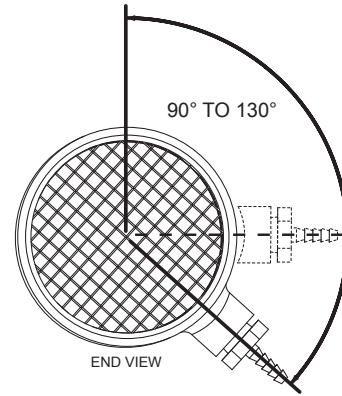

Figure 25. Intake Air Connection Hose Barb Angle Range for Proper Operation
Ensure that the hose barb installed in the Tee fitting IS NOT facing down towards the ground (180° - 6 o'clock position) before venting installation begins. The barb fitting must be angled between 90° and no more than 130° as shown in **Figure 25** (page 33). If the barb fitting is facing down, residual condensate that occasionally forms in the intake-air pipe can drain into the Blocked Intake Air switch through the attached sensing tube and damage the switch. This condition can also lead to Blocked Intake Air fault conditions and associated control system lockouts.
The intake-air Tee fitting is factory-installed with the 1/2 inch branch and hose barb angled to the right at approximately 130° when viewed from the end. See **Figure 25**. The Tee fitting's 1/2 inch branch and hose barb must not be angled any lower (towards the ground) than this factory specification. Angling higher, up to a 90° position, will not adversely affect operation and is acceptable.
Inspect the angle of the tee fitting's 1/2 inch branch and hose barb while viewing from the end of the tee. See **Figure 25**. If the angle of the tee fitting 1/2 inch branch and hose barb is lower than shown, adjustment will be necessary. To adjust the intake-air tee fitting angle, follow the steps listed below.
4. Adjust the angle of the tee fitting so that the 1/2 inch branch and hose barb are at the proper angle as shown in **Figure 25**.